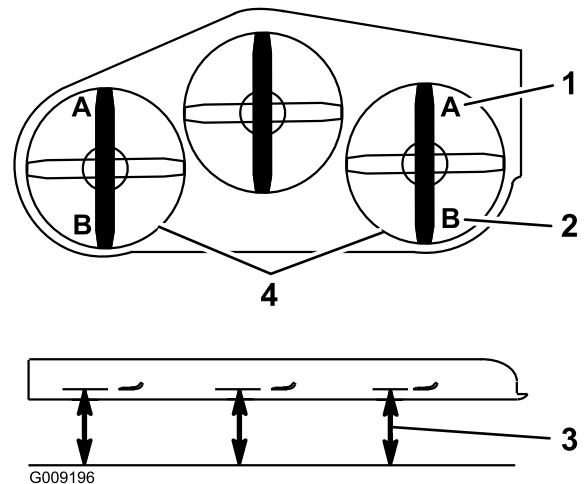

Figure 88
9. On both sides of the deck, measure from the level surface to the front tip of the blade (Position A) as shown in Figure 88.
15. On both sides of the deck, measure from the level surface to the back tip of the blade (position B) as shown in Figure 88.